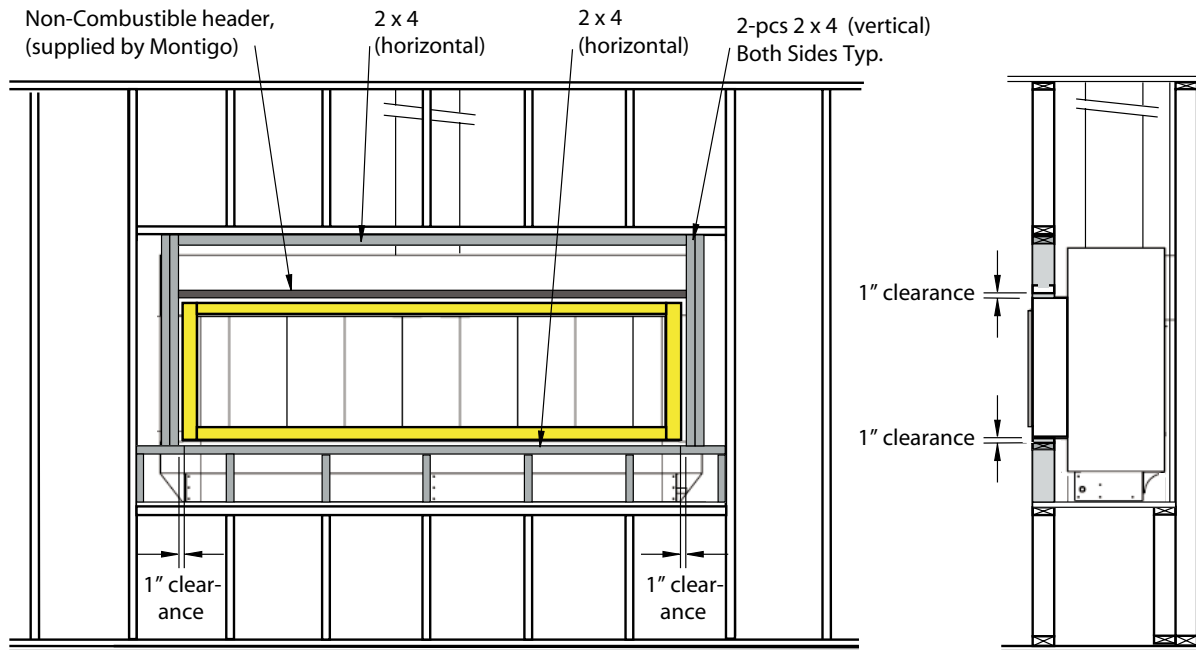
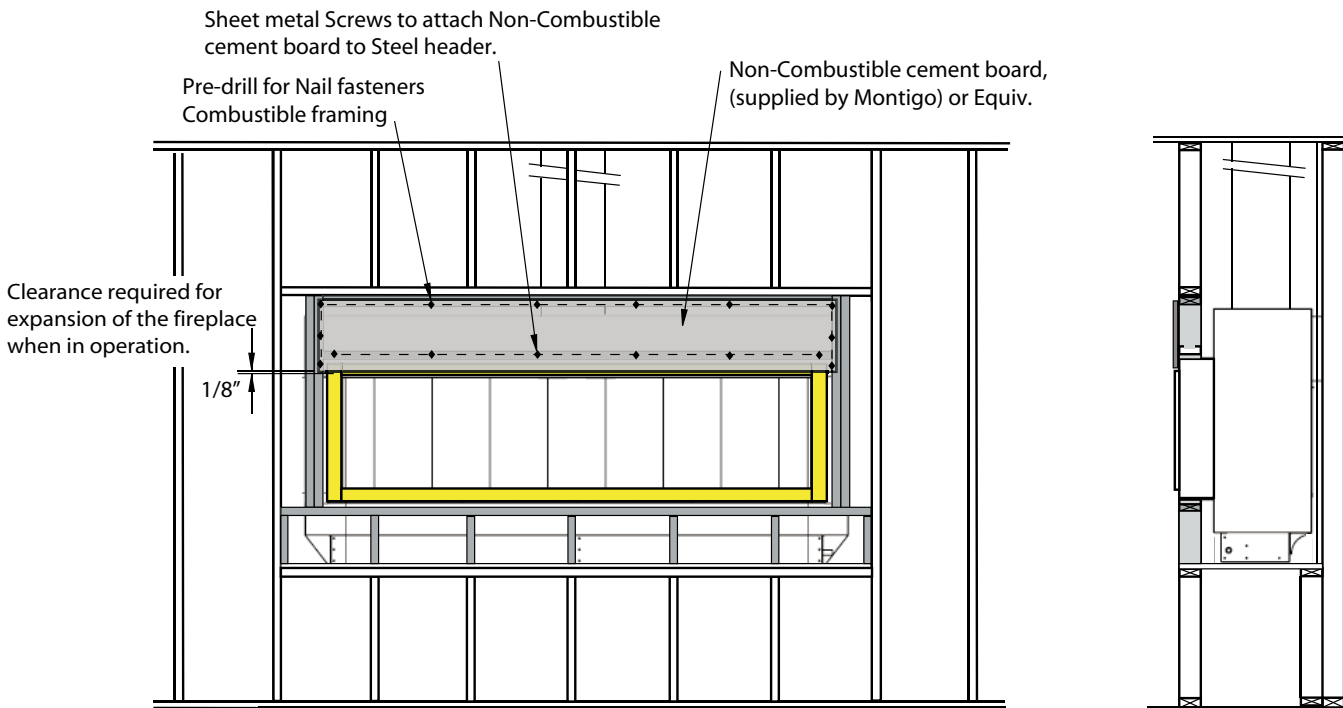

Figure 16b. Fireplace installation, (Ensure you maintain the 1" clearance to combustibles).
Figure 16c. Non-combustible Board over the Fireplace, (supplied by Montigo).
combustibles), **Figure 16b**. Next, cut four vertical 2 x 4's to install between the Upper and Lower Horizontal 2 x 4's, (2-pcs either side). (Ensure these are placed the required 1" clearance to combustibles). Cut the top 2 x 4 (horizontal) to fit between the vertical 2 x 4's (iether side of fireplace) as shown. Last, install the Supplied Steel Header 1" above the fireplace throat.
Step 4. As shown in **Figure 16c**; Cut a sheet of Non-combustible concrete board to overlap the new Horizontal & Vertical 2 x 4's, See **Figure 16b**, Above. Place the Non-combustible wall board above the fireplace throat, allowing 1/8" clearance from the rim above the fireplace opening. Pre-drill the board with 1/8" drill and secure to framing with Nails, use flat heat sheet metal screws to fasten the board to the metal header.